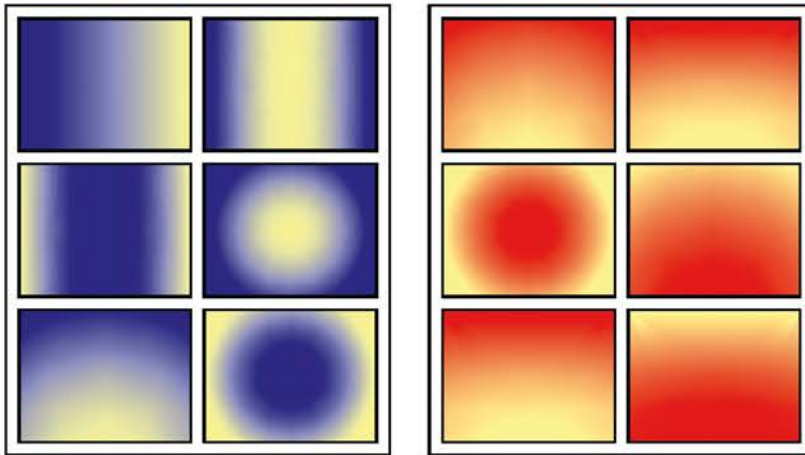

Fig. 7.15 Fourth example – Colour gradient hatching
FOURTH EXAMPLE – COLOUR GRADIENT HATCHING (FIG. 7.15)
Fig. 7.15 shows two examples of hatching from the **Gradient** sub-dialog of the **Hatch and Gradient** dialog.
1. Construct two outlines each consisting of six rectangles (Fig. 7.15).